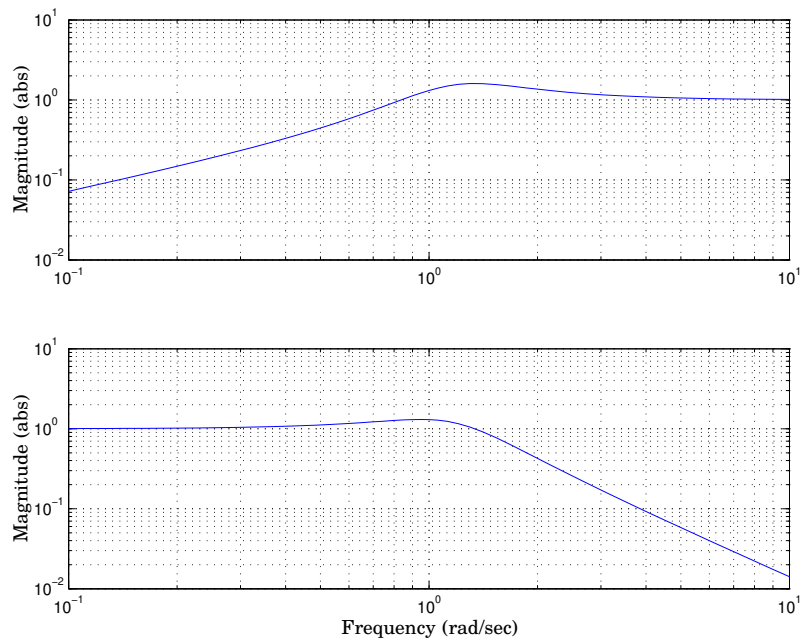

Figure 2.7 The two magnitude curves in Problem 2.5.
- b. Figure 2.7 shows gain curves for the sensitivity function and the complementary sensitivity function. Which curve represents which function?